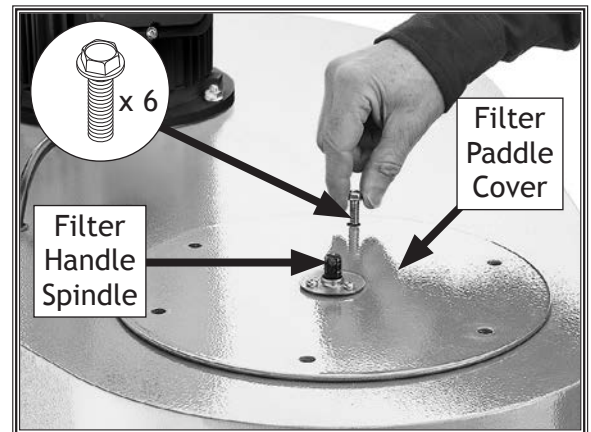

Figure 26. Installing filter paddle cover.
27. Slide filter paddle cover over filter handle spindle, then secure with (6) $\frac{5}{16}$ "-18 x $\frac{3}{4}$ " flange bolts (see **Figure 26**).